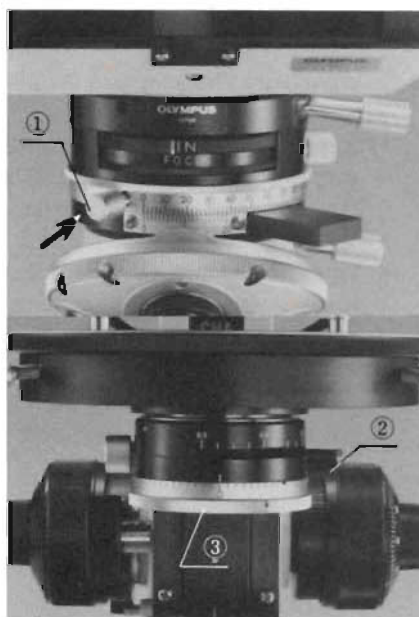

Fig. 4
- 1) Push the analyzer ① into the light path, and make sure that both polarizer and analyzer are set at position "0" to attain the "Crossed filter" position. Then loosen the clamping screw ② of the condenser. (Fig. 4)
- 2) Remove the specimen out of the light path so that a transparent area comes into the light path. Keeping the polarizer at the "0" position, rotate the polarizer rotation ring ③ until the optimum extinction is obtained, then clamp the ring. (Fig. 4)